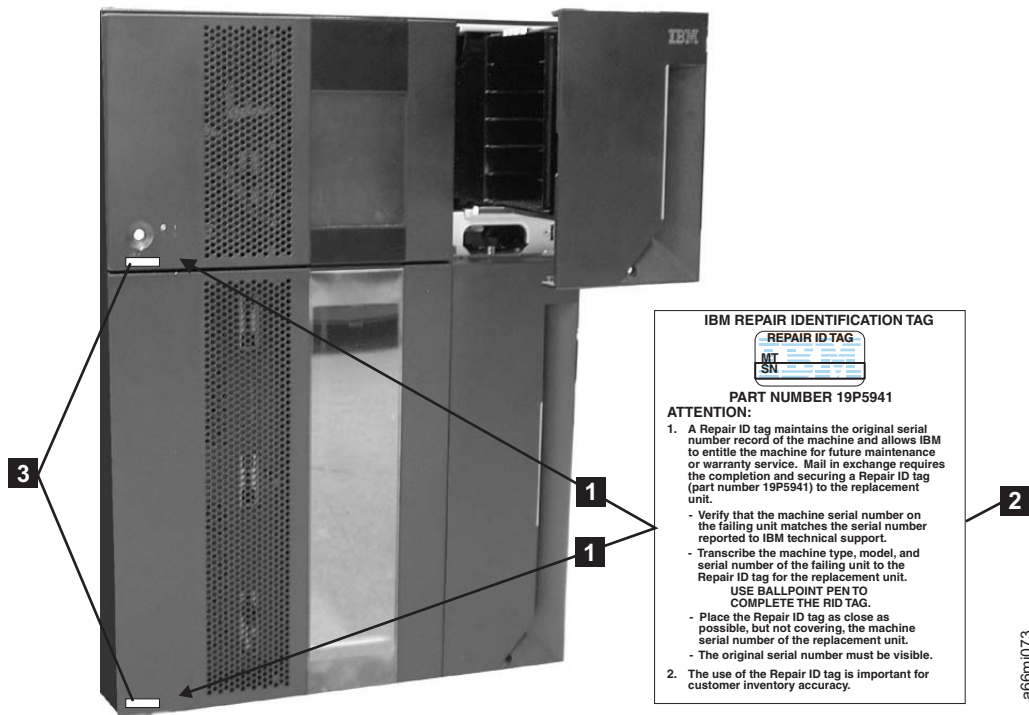

Figure 7-19. RID tag placement
1. Copy the serial number from the label in the lower left corner of the old enclosure onto the RID tag (2 in Figure 7-19).
2. Place the RID tag to the right of, but not covering, the serial number label located in the lower left corner of the new library enclosure (**1** in Figure 7-19 on page 7-31).